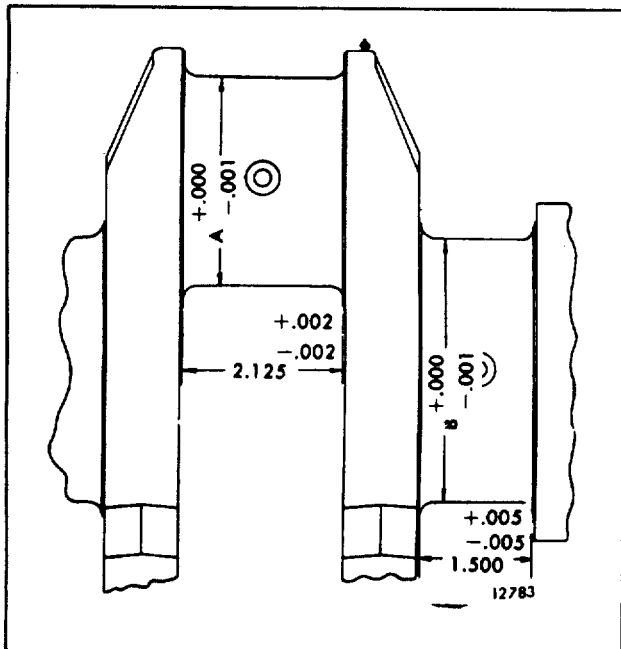

Fig. 6. Dimensions of Crankshaft Journals
Measure all of the main and connecting rod bearing journals (Fig. 6). Measure the journals at several places on the circumference so that taper, out-of-round and bearing clearances can be determined. If the crankshaft is worn so that the maximum journal-to-bearing shell clearance (with new shells) exceeds .0044", the crankshaft must be reground. Measurements of the crankshaft should be accurate to the nearest .0002". Also, if the journal taper of a used crankshaft exceeds .0015" or the out-of-round is greater than .001", the crankshaft must be reground.
1. Compare the crankshaft journal measurements taken during inspection with the dimensions in Table 2 and Fig. 6 and determine the size to which the journals are to be reground.